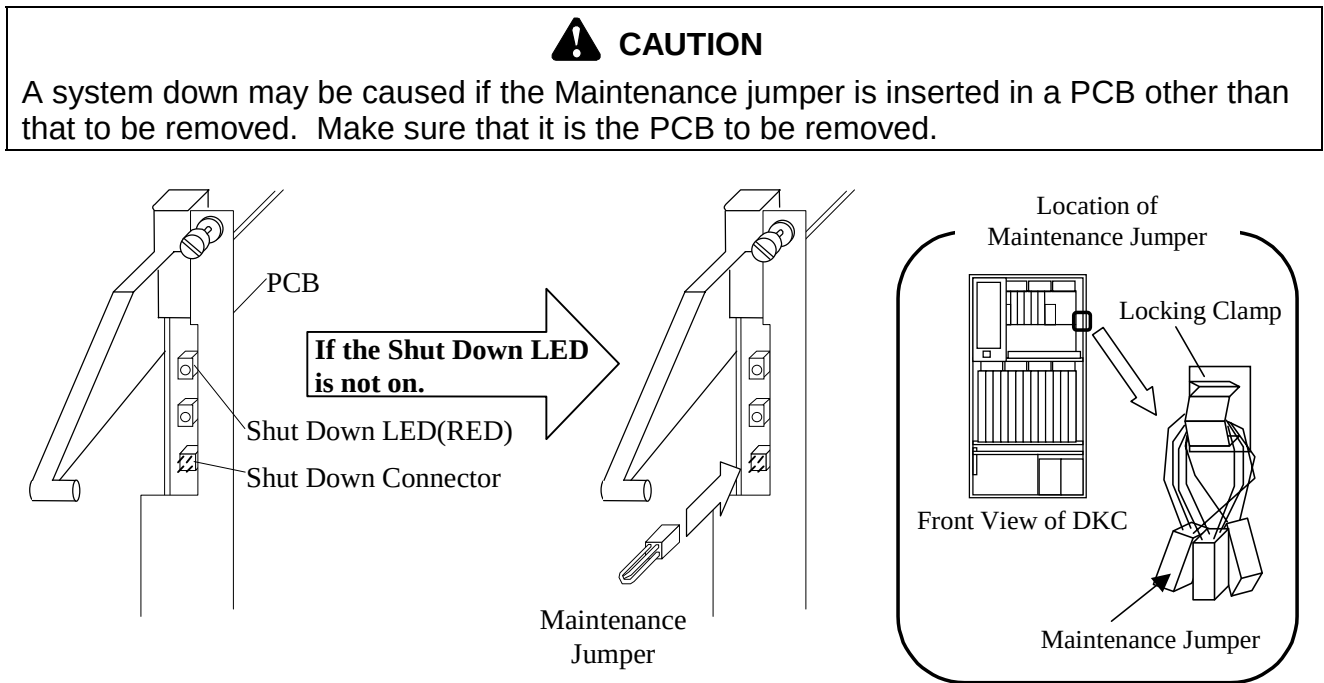

Fig. 4.3.1-1 Location of the Shut Down LED
- a. While referring to Fig. 4.3.1-1 and Table 4.3.1-2, check the Shut Down LED on the Cache Memory PCB in the Front Logic Box. Connect the Maintenance Jumper to the Shut Down Connector if the Shut Down LED is not on.